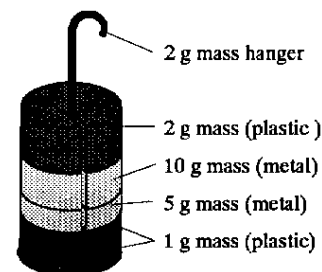

Figure 2
6. Place 20 grams of mass on the mass/hanger set, see Figure 2. The applied net force is the weight of the hanger and masses ( $m \times \text{acceleration due to gravity}$ ) minus friction forces.